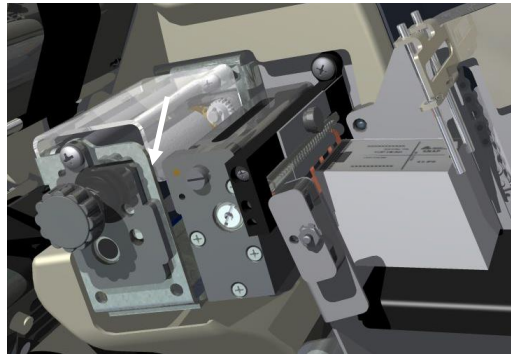

Figure 18a: Lubrication Locations
2. Remove the knife assembly from the printer as described in Section 4.4.1. Refer to Figures 18a and 18b.